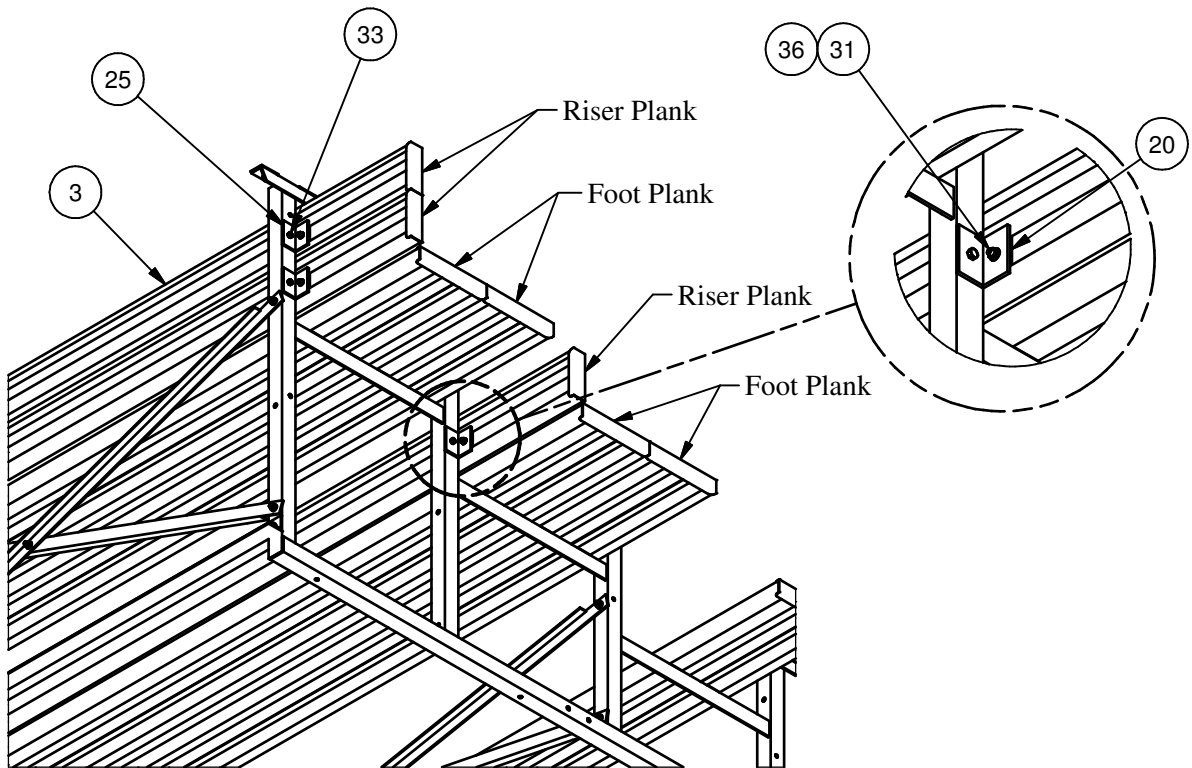

Figure 6
6. Install the riser planks on the 4th and 5th row seat vertical angles. First install the riser mounting angle onto the upright using the 5/16" x 1" hex bolt and 5/16" whizlock nut. Once all the mounting angles have been installed at all frame positions, loosely install the mounting clip with the 5/16" x 1" carriage bolt and 5/16" whizlock nut. See figure 6.